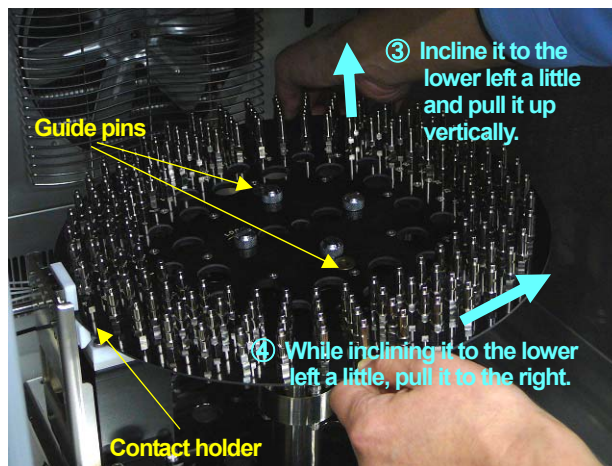

Fig.3-2 Removal of turn table
- ④ Surely grasp the front and back of the turn table with your both hands and while care is taken for the contact holder on the left, incline the turn table to the lower left a little along two guide pins and **slowly** pull it up vertically (see Fig.3-2).
- ⑤ After removing the turn table from the guide pins, while care is take for the contact holder on the left, incline the turn table to the lower left a little and remove it to the right **slowly** (see Fig.3-2 and 3-3).
- ⑥ Place the removed turn table on the stable support.